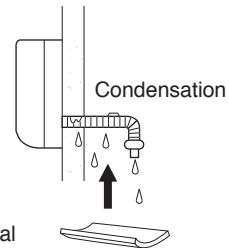

Fig. 44
- c) If the drain hose will run in the room, insulate the hose with insulation\* so that chilled condensation will not damage furniture or floors. (Fig. 44)